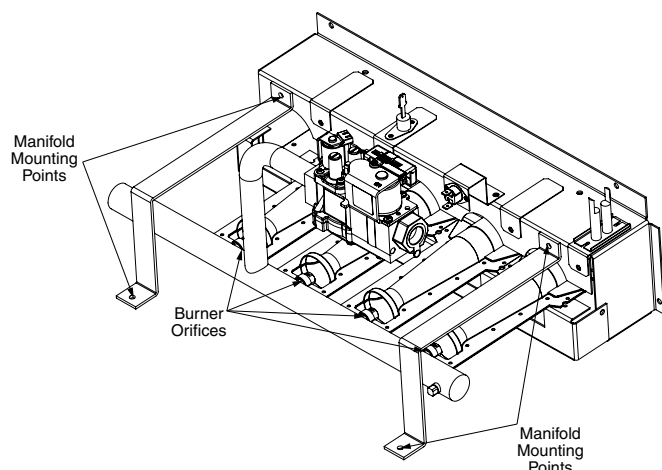

Figure 1. Burner and Manifold Assembly
5. Remove four fasteners that secure the gas manifold to the burner box. Carefully remove the gas manifold assembly from the burner box (see Figure 1).